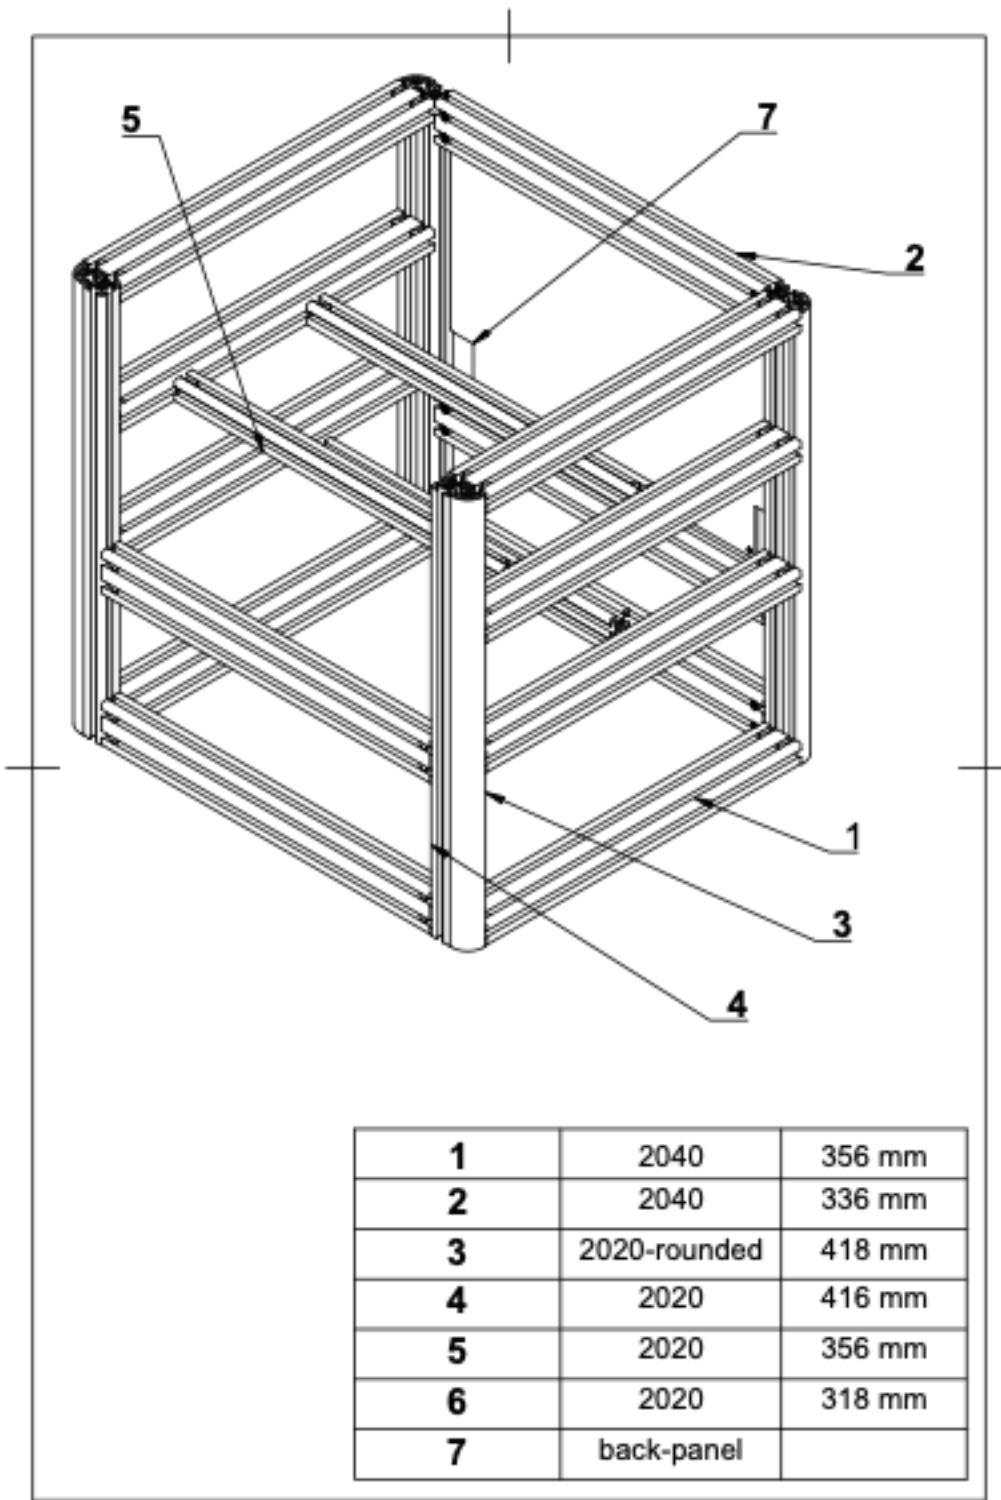

Figure 2. Frame design.
1. Start by constructing the rear of the frame (**2 x 2040-336mm-RAIL**, **2 x 2020-416mm-RAIL**). Take each **2020-416mm-RAIL**, and into the inside groove slide in 4 **FAST-CONNECTOR-SLIDE-PIN** into each rail. Insert the **FAST-CONNECTOR-SCREW** into each **2040-336mm-RAIL**, move these in position following the diagram in Figure 2, and then tighten each screw using the 3mm allen key.